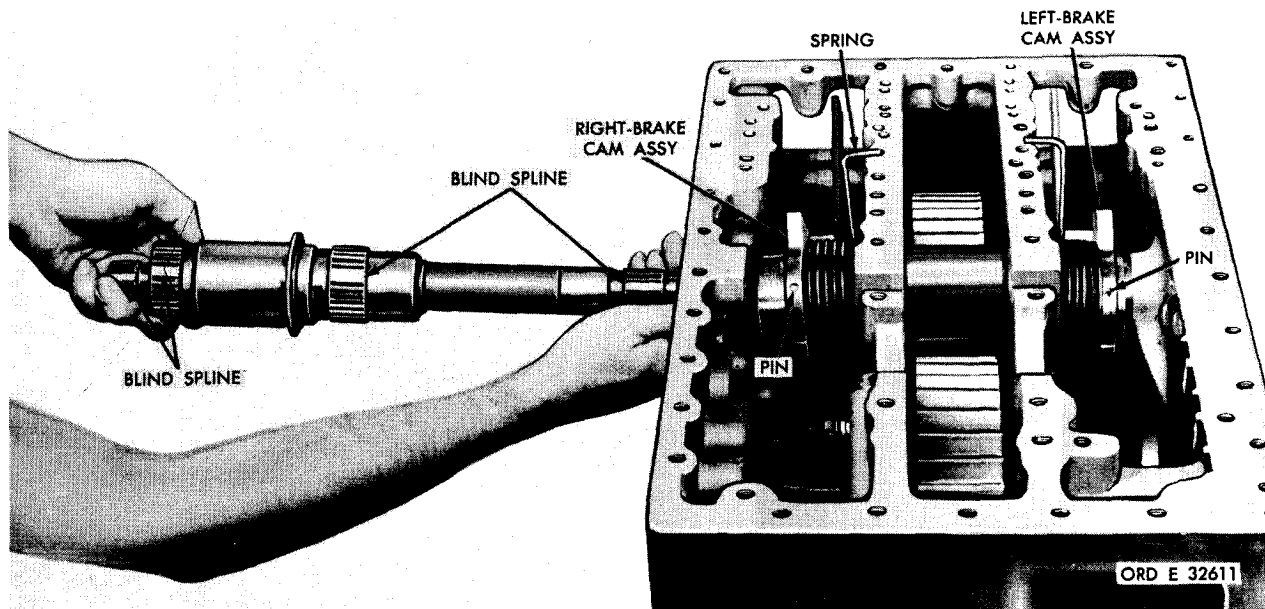

Figure 192. Installing right- and left-brake apply shafts
v. Install the spring on the right-brake cam assembly and position in the transmission rear housing (fig. 192).
w. Install the right- and left-brake apply shafts, indexing the blind splines on the shafts with the two pins located in the right- and left-brake cam assemblies (fig. 192).